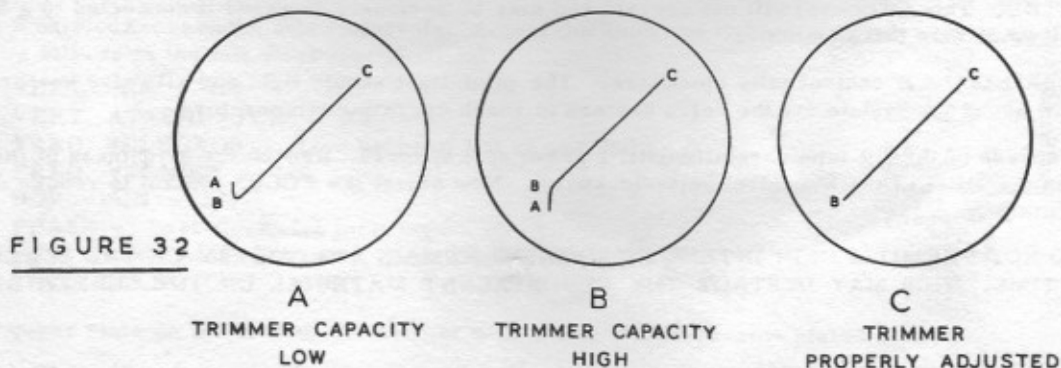

FIGURE 32
5. If you are unable to obtain straight diagonal lines when adjusting the vertical trimmers, please refer to Figure 32 on Page 34 of your O-12U manual. The patterns shown there present a perfectly straight line between points B and C on the traces. Some constructors have raised questions on this point, stating that they cannot obtain a straight line between B and C. This is perfectly normal. The indication which is significant is that portion of the trace between A and B. The intention of the adjustment is to reduce this portion of the trace to a point at the lower end of the trace, thus indicating neither overshoot or slow rise time on the sharp wave-front of the saw-tooth generated by the time base generator. If the remaining portion of the line is not quite straight, a readjustment of the sweep frequency will probably locate a point where the effect is changed radically. This variation is due to minor phase shift relationships in the amplifier circuits, not to defective or improper compensation.